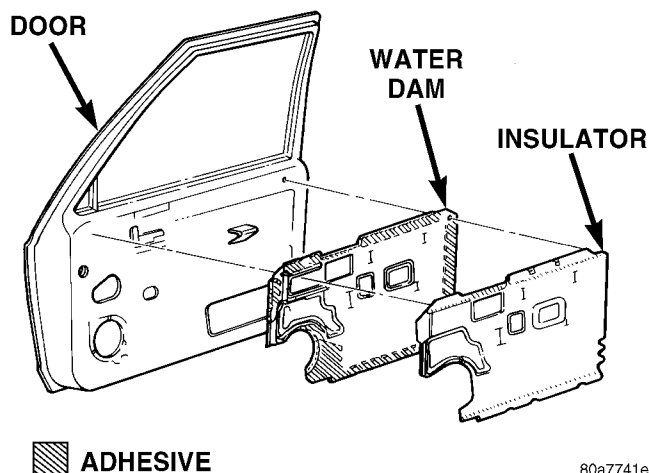

Fig. 14 Waterdam-Insulator
- (1) Remove the door trim panel.
- (2) Peel the insulator and waterdam from the door.
- (3) Route all harnesses through waterdam as necessary.
- (4) Separate insulator and waterdam from door (Fig. 14).